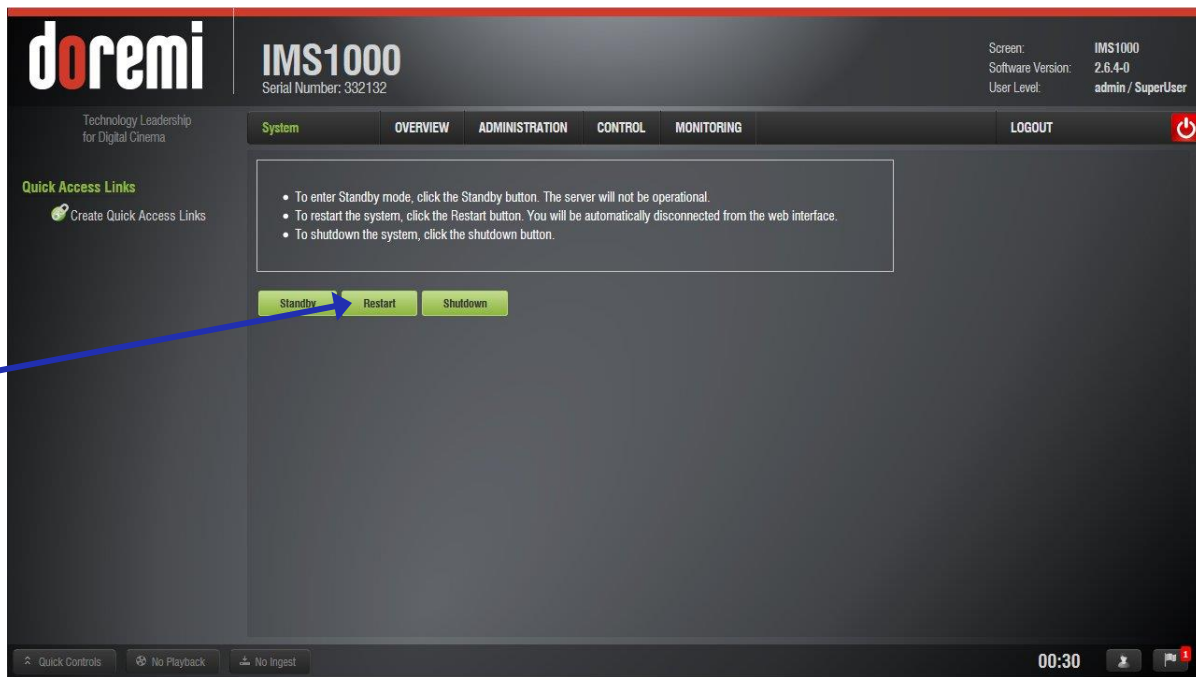

Figure 282: Restart the Unit
- The user will be prompted to the System tab to restart the unit (Figure 282).